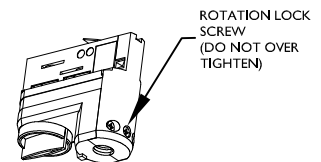

FIG. 2
- NOTE:** Track fixture horizontal rotation may be locked in desired position. FIG. 2
- NOTE:** Engage locking screw in wall mount application if luminaire is not holding desired aiming position. FIG. 2